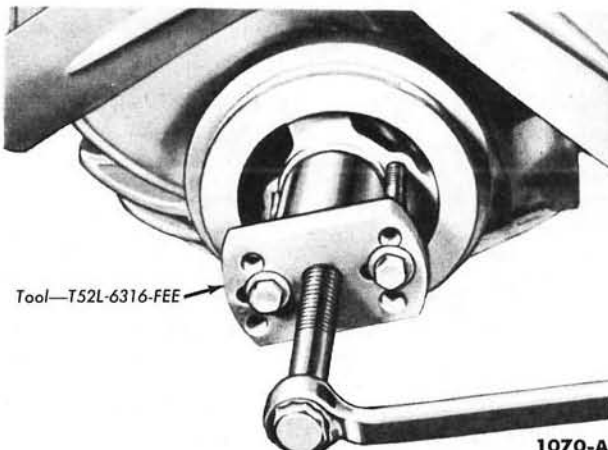

FIG. 22—Damper Removal
4. On all models, remove the cap screw and washer from the end of the crankshaft, then remove the damper (Fig. 22).